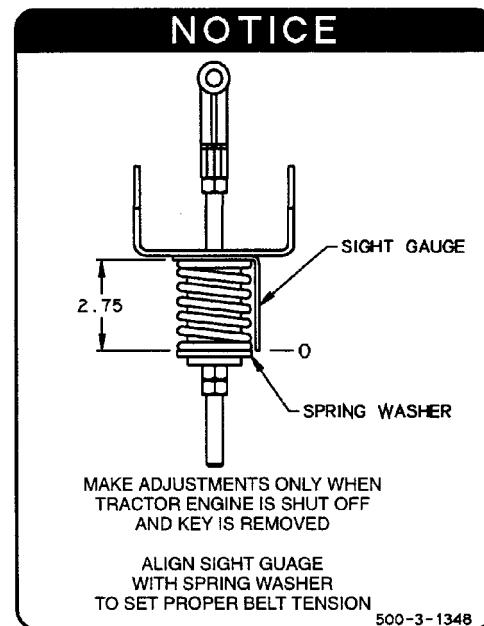

Figure 33. Belt Tension Guage
5. Align sight gauge with spring washer as shown in Figure 33 to set proper belt tension. Do not overtighten.